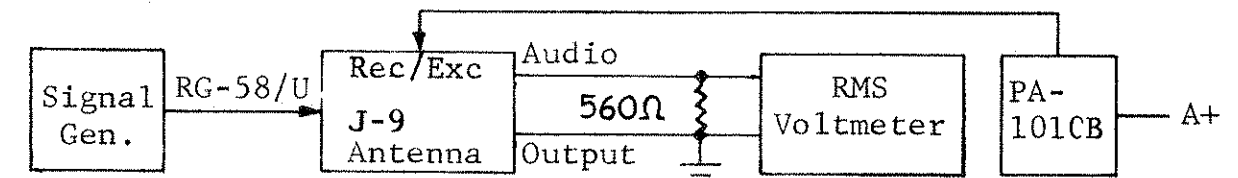

Figure V-2
- (1) OFF/ON switch to "ON" position.
- (2) Channel selector switch in desired frequency position.
- (3) Squelch control full CCW.
- (4) Receiver/Exciter in "receive".
- (5) Connect test equipment as shown in Figure V-2.